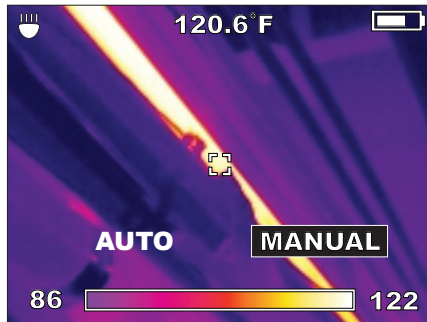
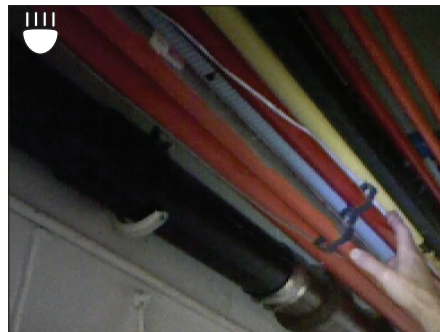

Figure 8. Live Thermal Image
Figure 10. Live Visual Camera View
5. Observe the live thermal image on the display as shown in Figure 8. Rotate the focus ring on the thermal sensor lens for maximum sharpness. Make small focus adjustments and wait for the image to settle before making another adjustment. Focusing has a different feel than it does with visual image cameras.
In the live thermal image in Figure 8, the 120.0 °F reading at the top of the display is the temperature inside the center target. The bottom of the display shows the color palette over the temperature span (in this case, 86 °F to 122 °F). Span is adjusted automatically in auto-range mode (default setting). This manual explains how to use manual range settings under “Optimizing Thermal Images.”
Figure 10 shows a visual image as it would appear on the display. This is the companion to the thermal image in Figure 8. There is no temperature data associated with a visual image. Visual images are to help you identify objects in thermal images.